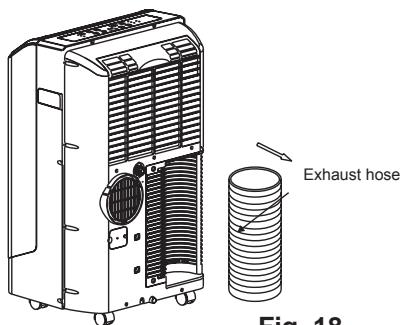

Fig. 18
- For the first time to use the machine, take the exhaust hose out as shown in Fig.18.